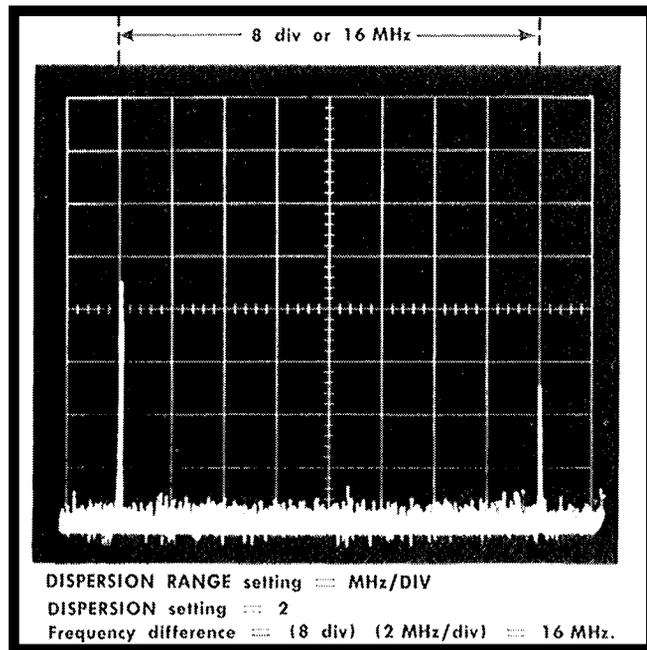

Fig. 2-23. Frequency difference measurement between two signals.
3. Measure the distance, in graticule divisions, between the two signals (see Fig. 2-23.)